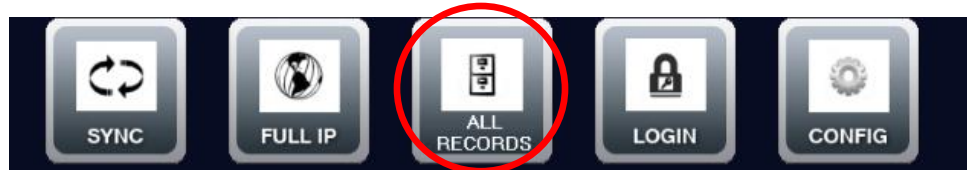

Figure 63: All Records icon
2. Tap the All Records icon (circled in Figure 63) in the bottom toolbar of the app's homepage.